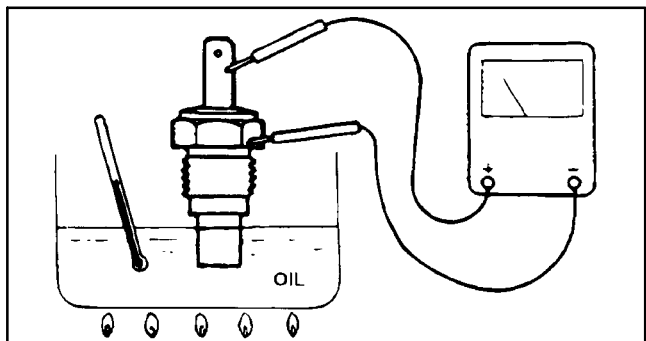

Figure 32
2. Put switch in a container of oil with a thermometer and slowly heat the oil (Fig. 32).